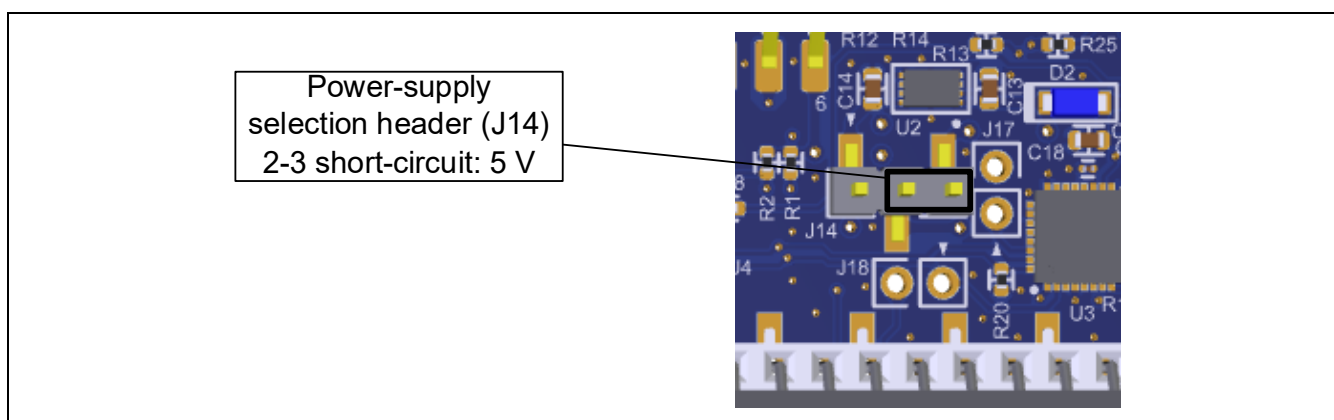

Figure 5-19 Setting of the Header to Select a 5-V Power Supply
- 2-3 of J14 being short-circuit selects a 5-V power supply (Figure 5-19).